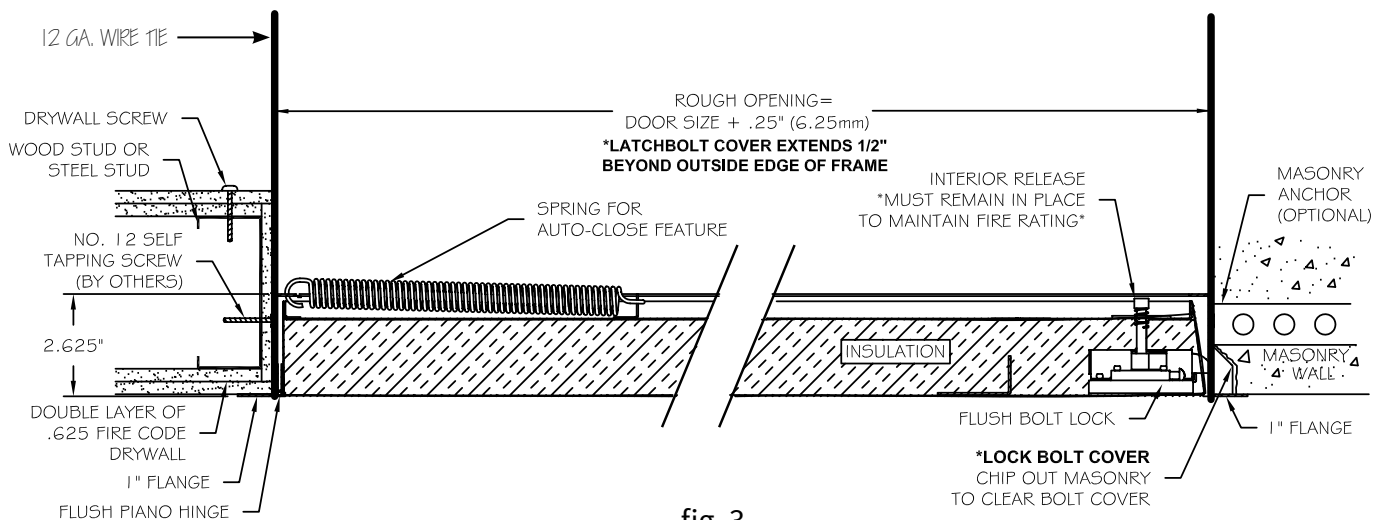

fig. 3
3. Frame can be supported with 12 ga wire ties to ceiling structure at all four corners or plumbers tape attached from framing screws to studs of floor above for ease of installation, **fig. 3.**